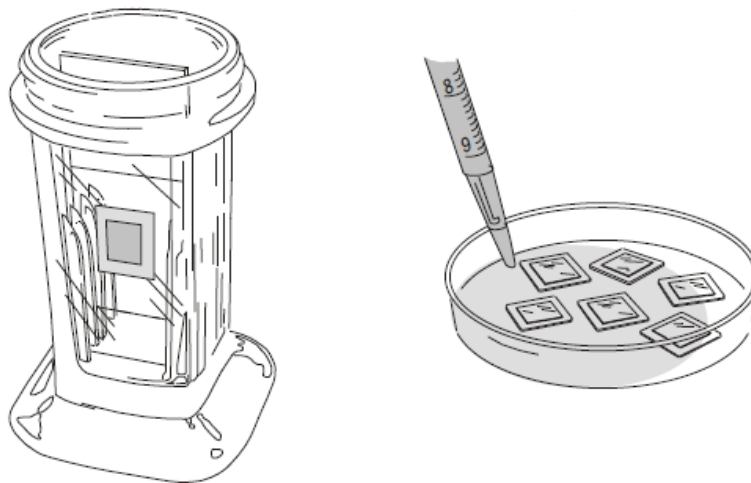

Figure 5
5. To culture cells on SecureSlip glass coverslips, flood the plate with a suspension of cells in medium as shown in Figure 5. Allow the cells to attach for 1-24 hours in a humidified CO₂ incubator.